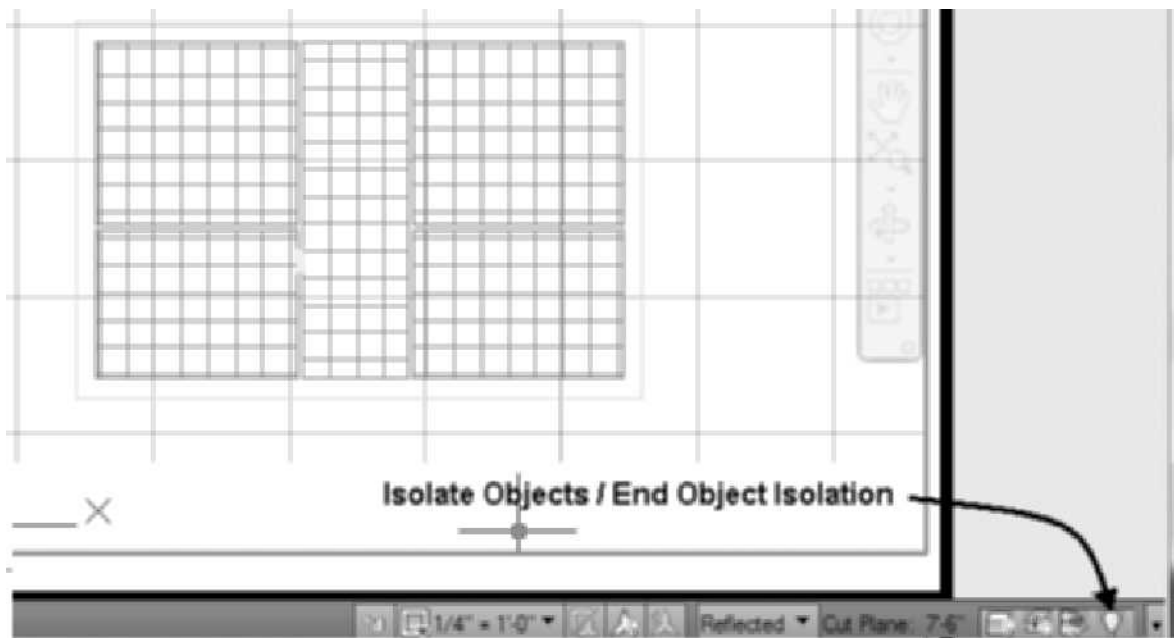

FIGURE 1.58 Reflected display configuration of Work layout tab
12. To end the isolation state, choose **End Object Isolation** from the Drawing Window status bar as shown in Figure 1.58.
13. To view the building with the Reflected display configuration, verify that the right viewport is current. Choose the **Reflected** display configuration from the **Display Configuration** flyout menu of the Drawing Window status bar. The viewport should display the ceiling grid as shown in Figure 1.58.